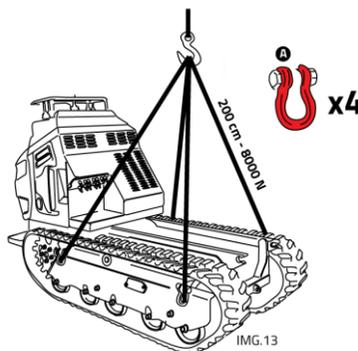

fig. 22 – Lifting points
- Attach the lifting hooks exclusively to the anchoring points that were prescribed by the manufacturer (fig. 22);